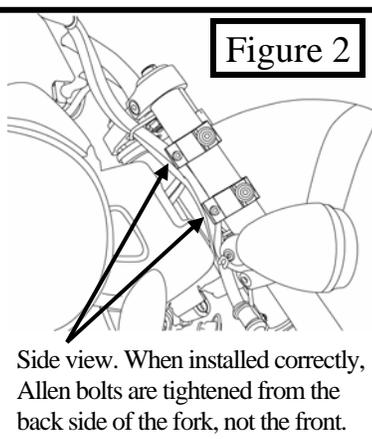

Figure 2
If the adjustable clamps are installed backwards, it will result in serious gas tank damage. Always check for proper gas tank clearance before tightening hardware. (see Figure 2)
3. Loosely install the fork clamps, approximately 1 3/4" apart. (see Figure 2)